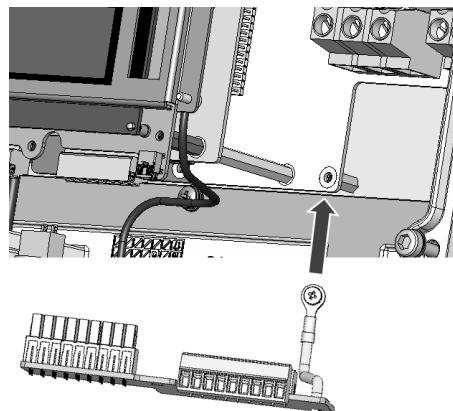

Figure 4: Affixing the Terminal Ring with a Ground Screw
4. Remove the inverter grounding screw, as seen below in Figure 4. Position the ring terminal of the surge protection board in its place, and replace and tighten the screw.